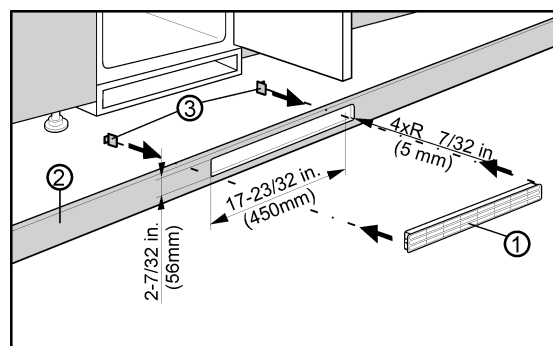

Fig. 3
The ventilation from below through the cabinet floor can be provided with the supplied ventilation grille *Fig. 3 (3)* or a ventilation opening of with a cross-sectional area of at least 31 in² (200 cm²). If you are using the supplied ventilation grille *Fig. 3 (1)*, proceed as follows:
- Insert the ventilation grille *Fig. 3 (1)* into the cutout in the cabinet floor *Fig. 3 (2)*.
- Slide the snap connectors *Fig. 3 (3)* into the grille from behind until the hooks touch the cabinet floor.